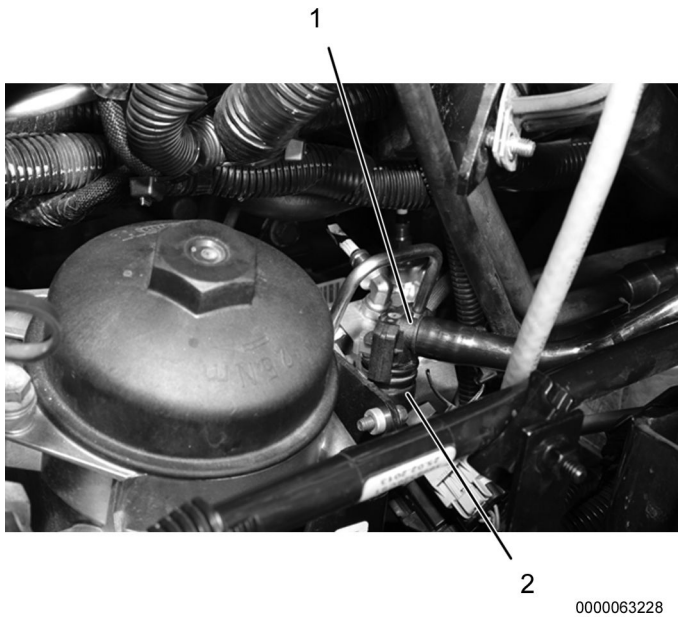

Figure 2. Fuel Return Tube.
10. Disconnect fuel return tube (Figure 2, Item 1) from aftertreatment fuel doser module (Figure 2, Item 2) and install cap ZTSE4891.